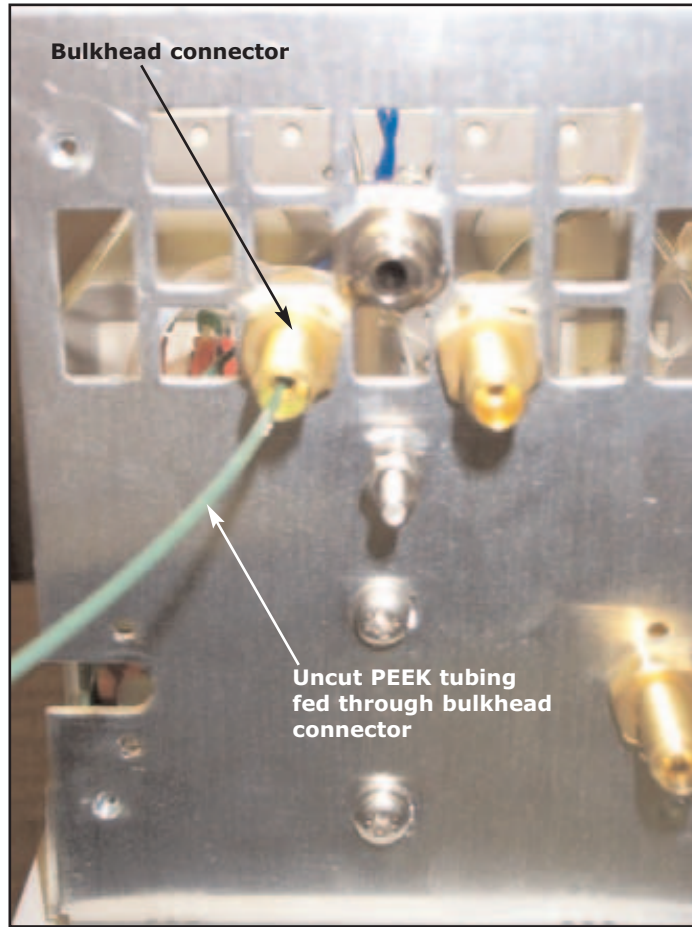
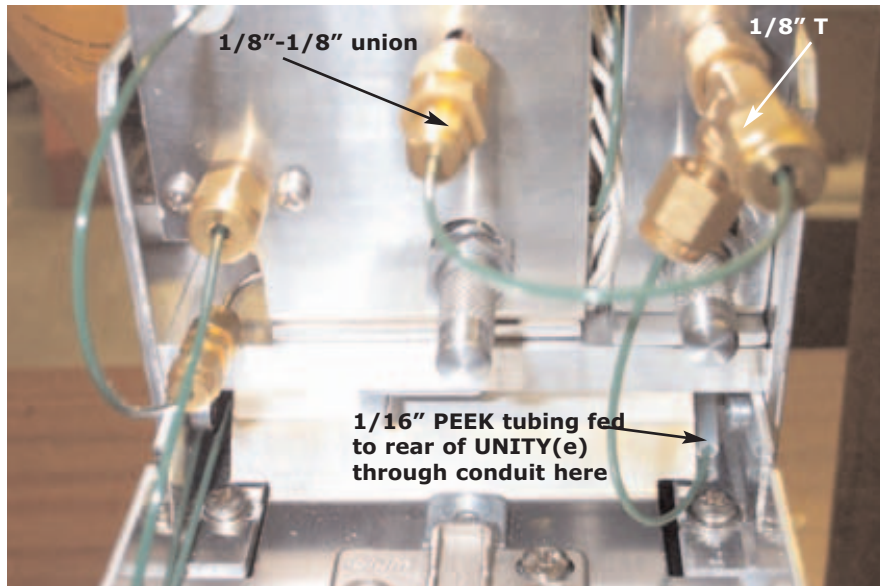

Figure 3. Bulkhead connector located at the rear of UNITY(e) with uncut PEEK tubing fed through.
Figure 4. Air Server connections to the front of UNITY(e)
- Install the bulkhead connector into the slot on the inner, back top plate of UNITY(e) (Figure 3).
- Working from the front, thread the long length of 1/16" PEEK tubing through the conduit located to the right between the analyser and base (see Figure 4) out of the back and up and through the bulkhead connector shown in Figure 3.
through the bulkhead as shown in Figure 3), as this will later be attached to the inlet of the MFC.
- Connect the 1/8" brass 'T' to the copper tube of the split flow vent and the 1/8"-1/8" union to the copper tube of the desorb flow vent (Figure 4).
Ensure all connections are firm but not over-tightened. The completed installation of the PEEK link tube assembly to the UNITY(e) pneumatics is illustrated in Figure 4.